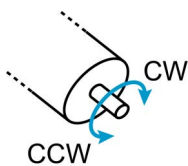

Figure 8-162 Adjustment of SSI commutation offset value | Check sense of rotation
- b) Turn the motor shaft by hand counterclockwise (CCW) as seen towards the motor's mounting flange (→Figure 8-162).